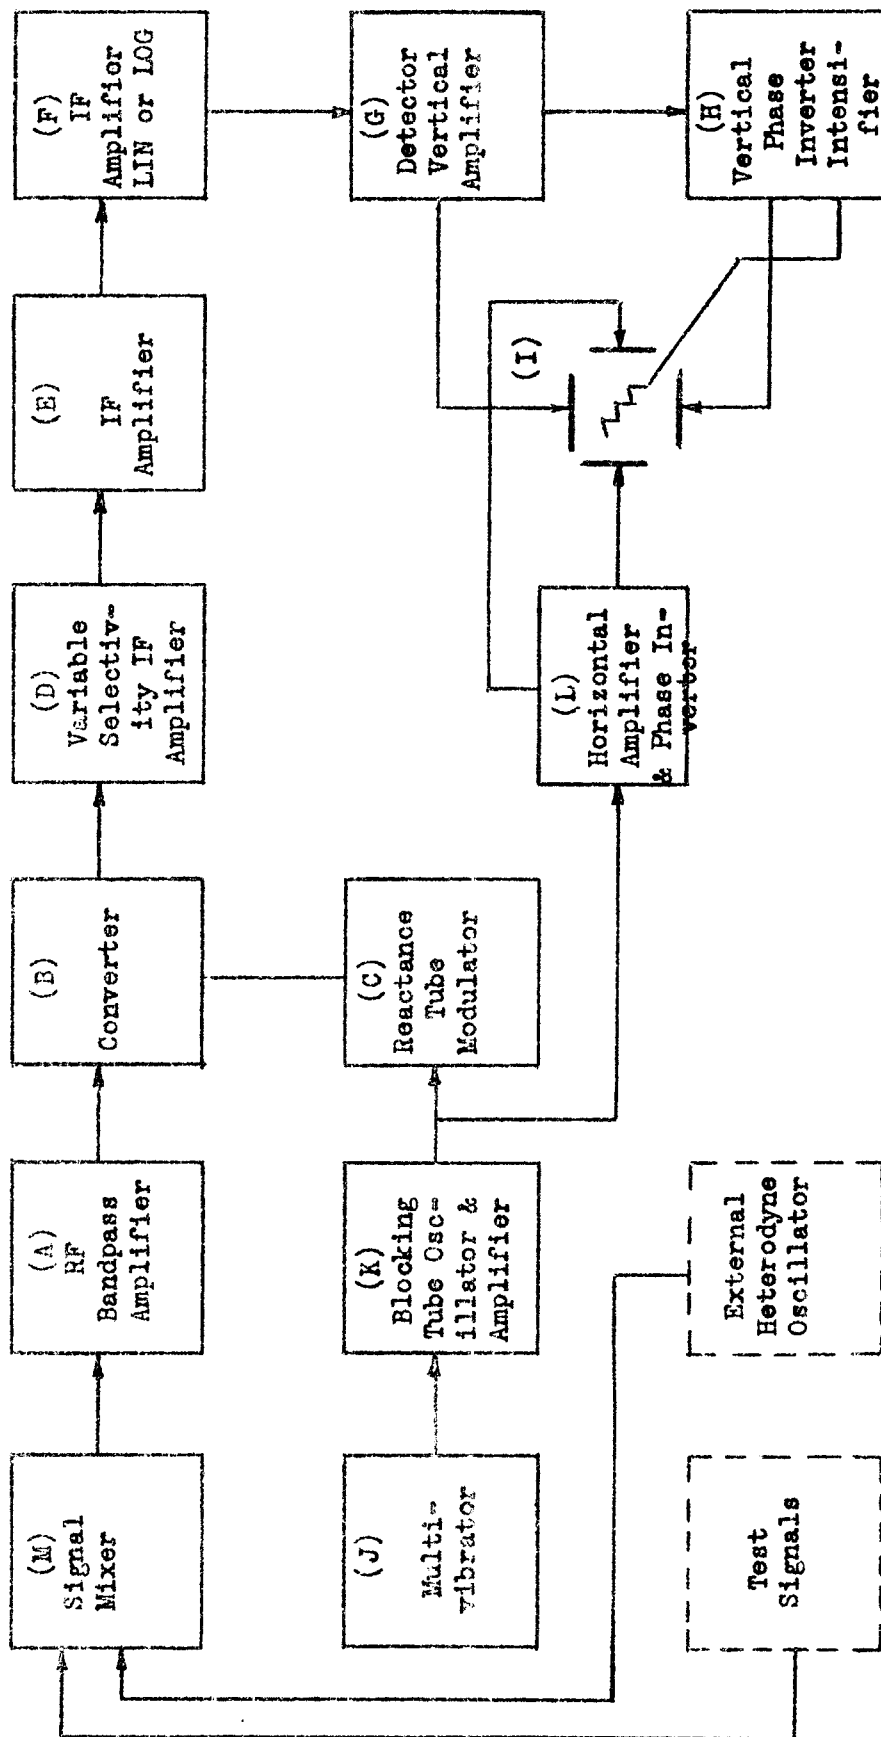

Figure 5 - BLOCK DIAGRAM, PANALYZOR
a. Signal Mixer: This stage, which employs a 6BE6 pentagrid mixer, is incorporated only in the Panalyzer. The test signals are applied to one of the control grids while the output of the external oscillator is applied to the other control grid. The function of the stage is purely to heterodyne the test signals with the external oscillator to produce a difference frequency which is equal to the input center frequency at the particular Panalyzer. Whatever gain is derived from the stage is incidental. The block marked II in Figure 5 represents the signal mixer.
b. R.F. Bandpass Amplifier: The function of this stage in the Panalyzer is to obtain to flat response across the scanned spectrum, and to provide image rejection. Refer to Block A Figure 5. The output load of the signal mixer consists of a double tuned transformer which is highly overcoupled and loaded resulting in a broad double peaked response. Peaking frequencies are as follows: